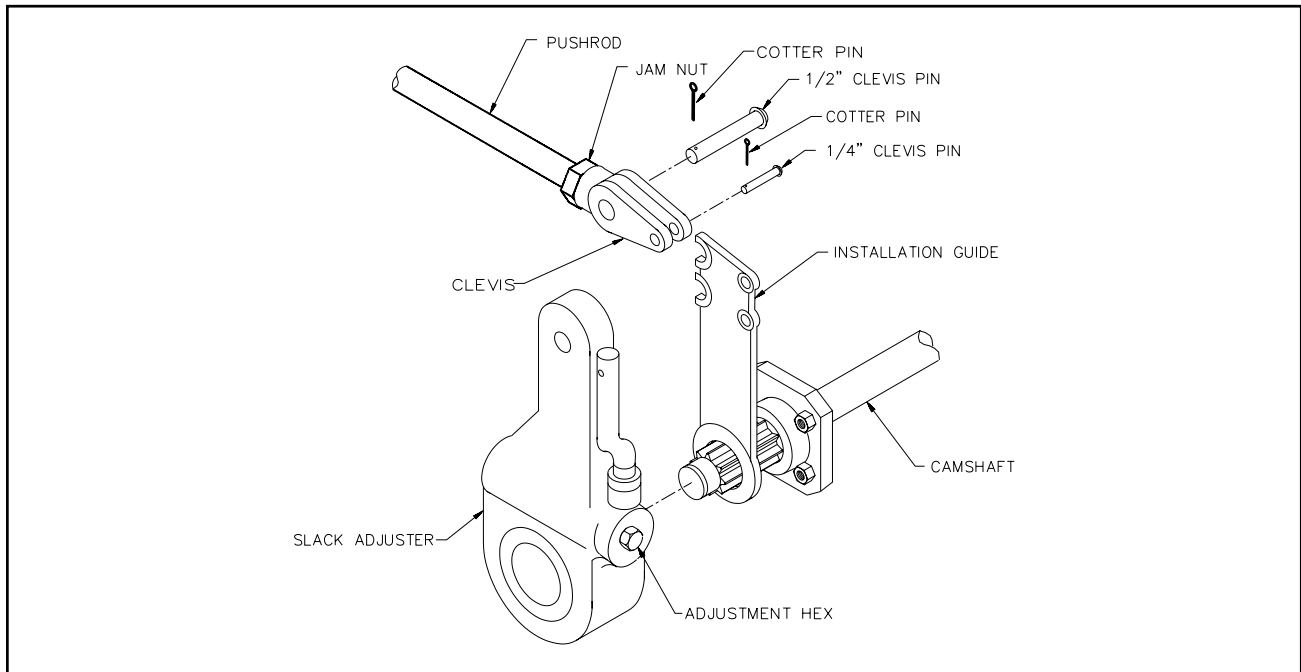

Figure 4-4 Slack Adjuster (Crewson Brunner)
4. Disconnect the slack adjuster from the connecting rod by removing the clevis pin (**See Figure 4-4**).
4. Remount the brake chamber on the axle brackets and reconnect the air service hoses and the slack adjuster connecting rod (**See Figure 4-4**).
a. Operational Check (See Figure 4-4)
b. Replacing Slack Adjuster (See Figure 4-4)